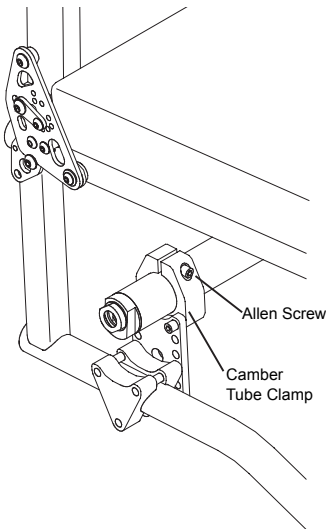

Figure 71
2. Loosen, but do not remove, the Allen Screw that secures the camber tube to each camber tube clamp. See Figure 71.